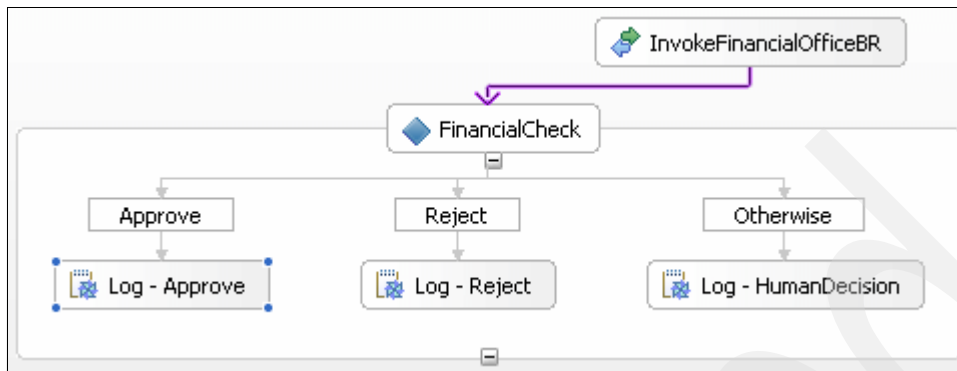

Figure 3-73 Financial path
19.Ensure the financial path looks as shown in Figure 3-73.